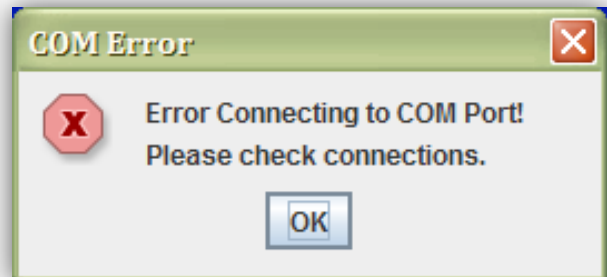

Figure 3
- 2) An error message will be displayed if the software was unable to connect to tester (Figure 3). Check the USB connection and verify that the correct COM Port is in the configuration file. The configured COM Port will be displayed on the console screen. You can modify the configuration by selecting "Open Config" from the Config menu. A successful connection will be indicated by the "Serial COM" LED (red) flashing.